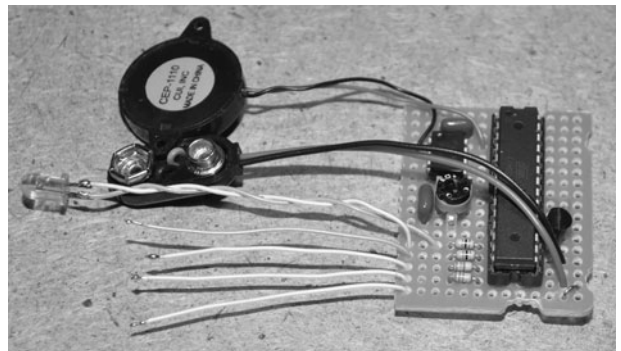

Figure 26-10 Adding the power, LED, and switch wires to the board.
The input/output (IO) wires can also live next to their corresponding pins on the perfboard to help keep the final wiring job as minimal as possible. We added all of the wires needed to connect the LEDs, switches, battery, and buzzer to the board using wires that were longer than necessary so they could be trimmer later (Figure 26-10). Also